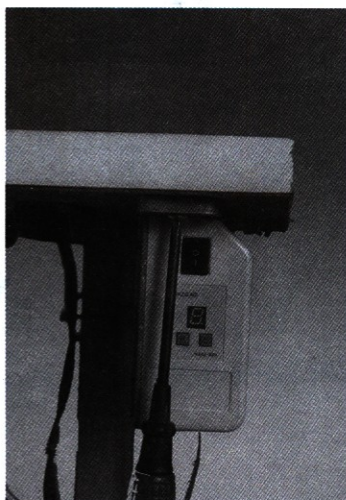

Figure 10
B. Installation of control box (Figure 10 and 11)